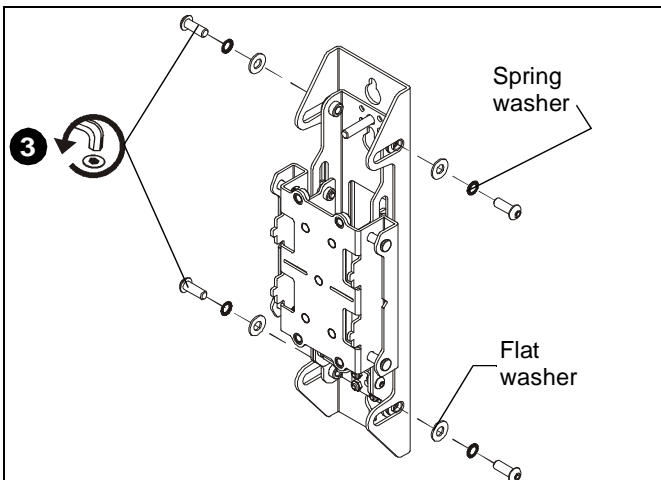

Figure 2
3. Remove one button head screw, spring washer and flat washer from four locations on side of wall upright. (See Figure 2)